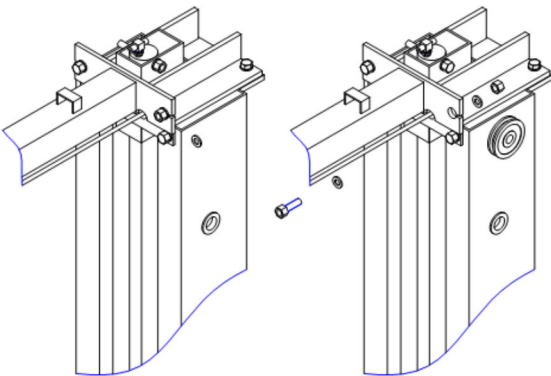

Fig. 7a
8. Install overhead beam to cylinder mounts (uprights) using 2ea 1/2" x 1-3/4" bolts, washers & nuts on each end, (Figs. 7a, 7b, 7c). **NOTE:** Ensure overhead Limit Switch Assembly is on the Main side column side.